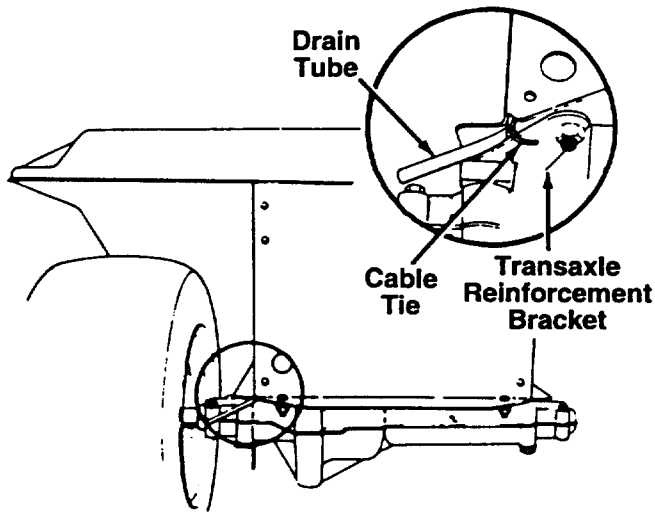

FIGURE 4.
6. Route the drain tube through the opening between the transaxle reinforcement bracket and the frame on the left rear of the unit. Insert the drain tube to the transaxle reinforcement bracket through the cable tie which is attached as shown in figure 4. Be certain drain tube is routed away from the wheel rim. Trim excess end of cable tie and drain tube (leave approximately 1" below lawn tractor frame).